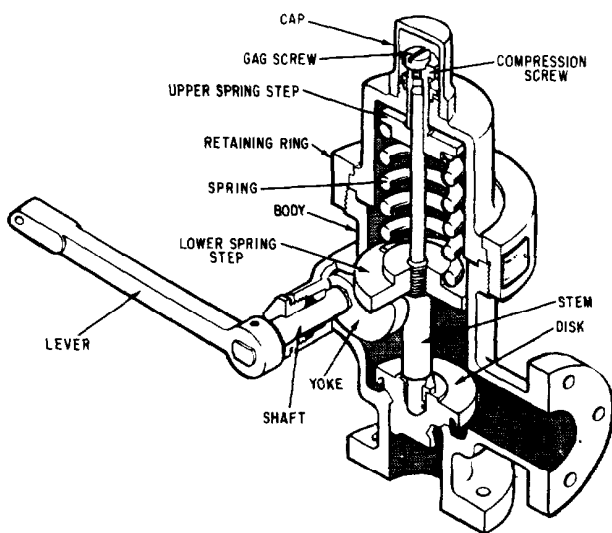

Figure 6-7.—Typical relief valve.
**RELIEF VALVES.**—Relief valves are automatic valves used on system lines and equipment to prevent overpressurization. Most relief valves simply lift (open) at a preset pressure and reset (shut) when the pressure drops only slightly below the lifting pressure. Figure 6-7 shows a relief valve of this type. System pressure simply acts under the valve disk at the inlet of the valve. When system pressure exceeds the force exerted by the valve spring, the valve disk lifts off its seat, allowing some of the system fluid to escape through the valve outlet until system pressure is reduced to just below the relief set point of the valve. The spring then reseats the valve. An operating lever is provided to allow manual cycling of the relief valve or to gag it open for certain tests. Virtually all relief valves are provided with some type of device to allow manual cycling.